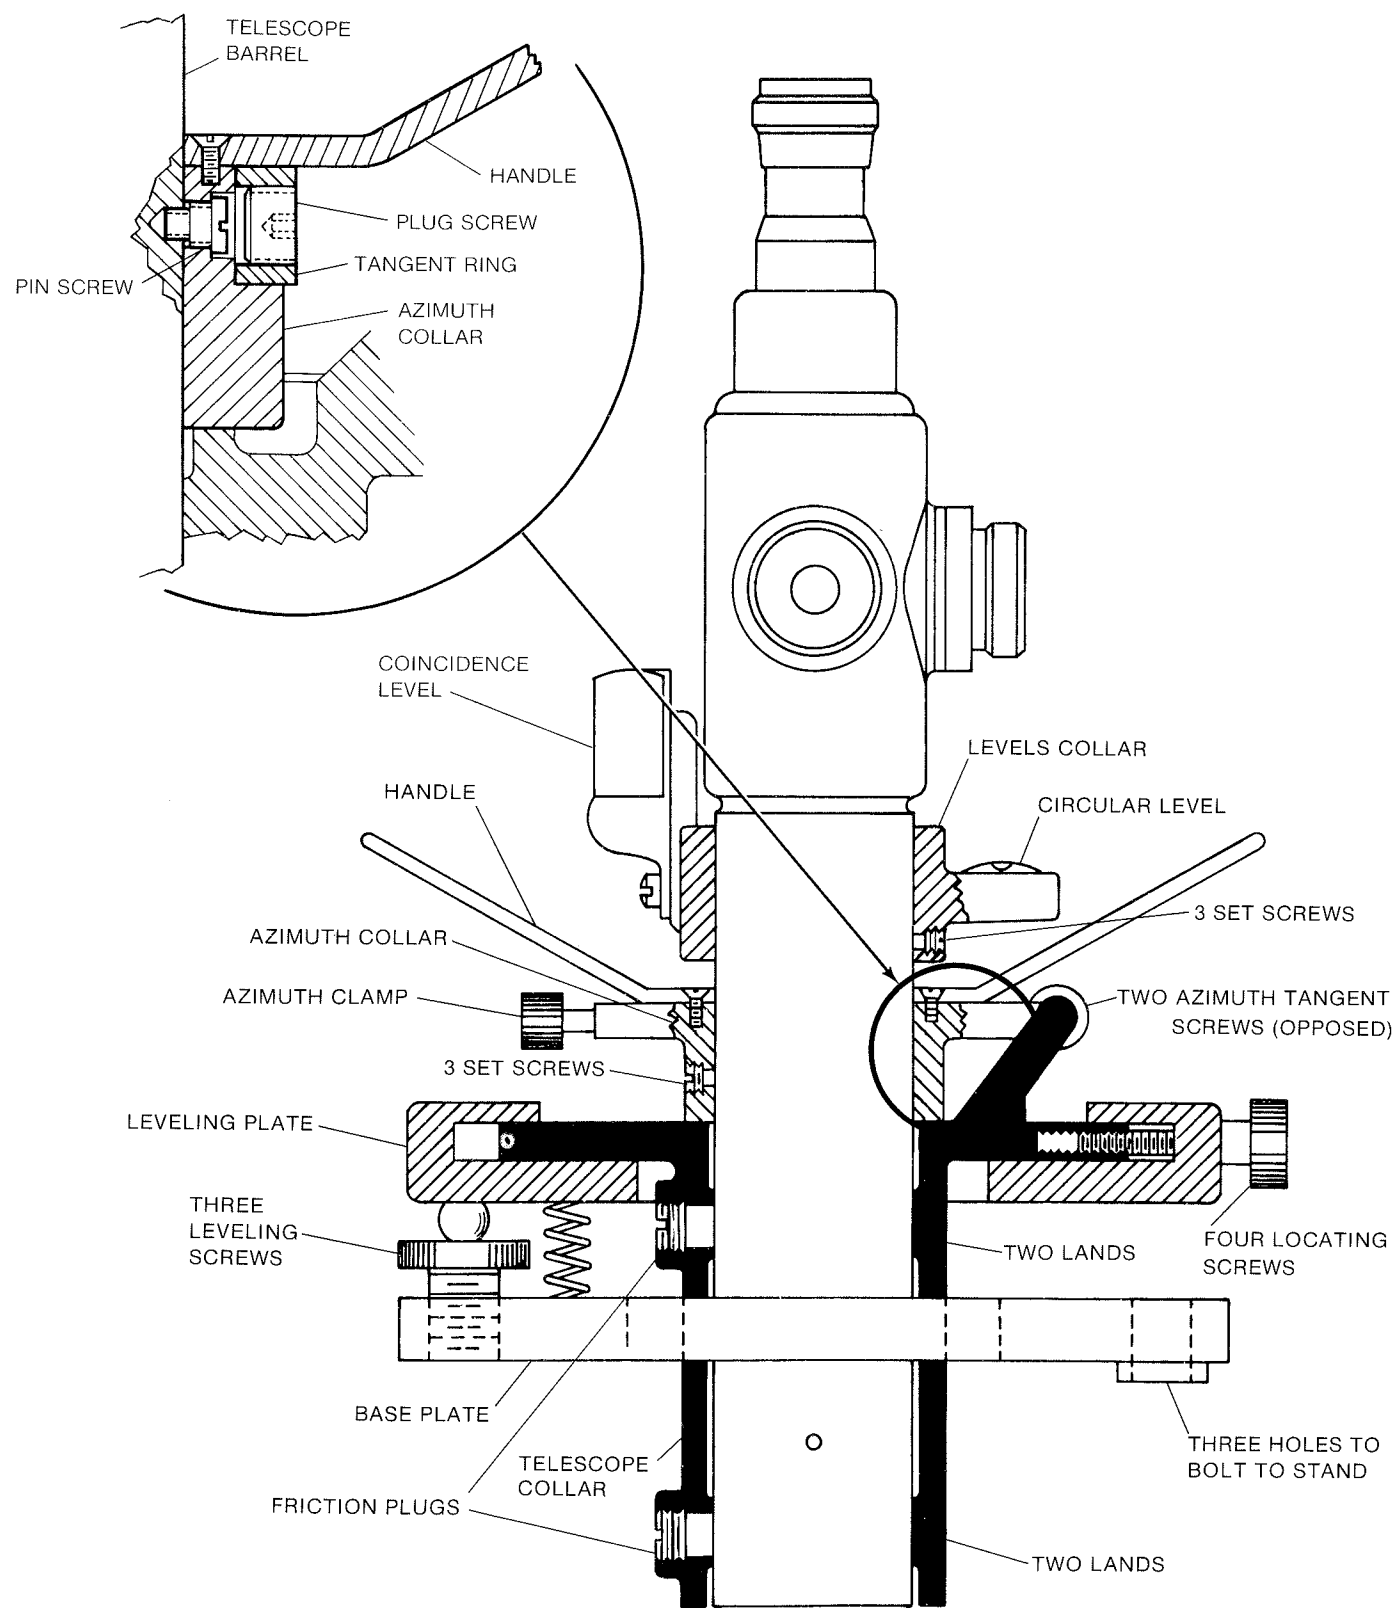

Figure 2-16. Schematic View of 71 5160 Plumb Aligner Bracket with Alignment Telescope in Place
4. Remove the socket-head plug screw located in the azimuth collar. (See Figure 2-16.)
5. Rotate azimuth clamp (Figure 2-16) until the hole is in line with the hole in the azimuth collar; then, tighten the azimuth lock screw.
2-56. To Mount a Plumb Aligner Bracket and Alignment Telescope. The Plumb Aligner Bracket is shown schematically in Figure 2-16. To mount the Alignment Telescope for a downward sight:
1. Center the circular level bubble with the leveling screws. (See Figure 2-16.) The bubble will move in the direction of any leveling screw that is turned clockwise.